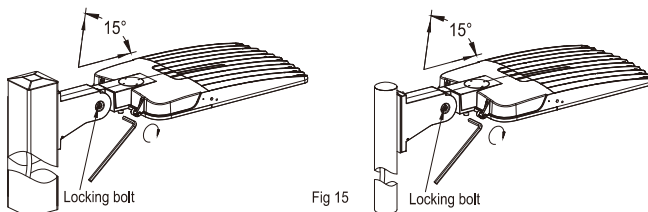

Fig 15
Step 8 : Loosen the locking bolt by a wrench to adjust the fixture to a appropriate angle , adjustment rang 15°, then tighten this, locking bolt, as fig 15